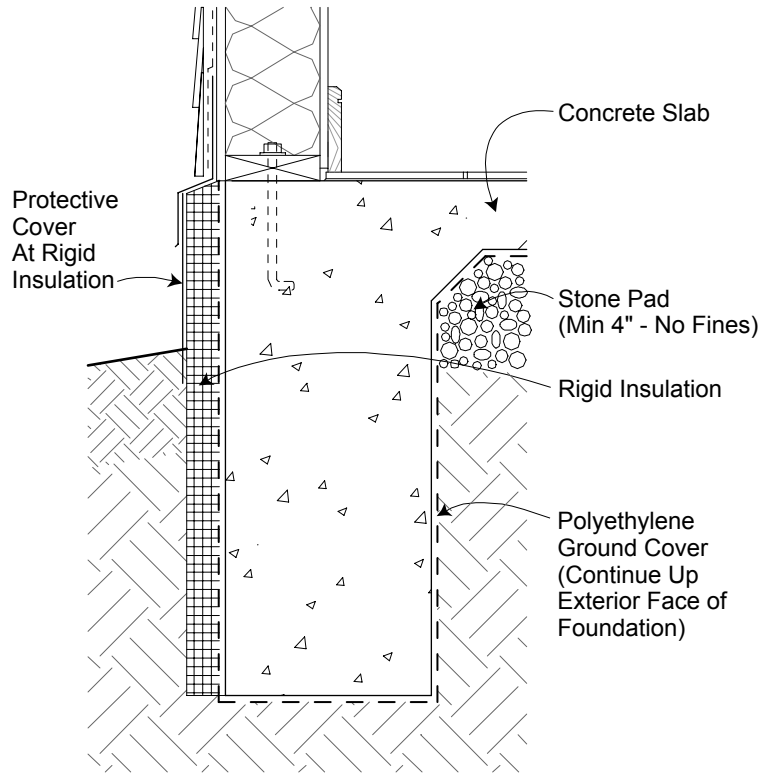

Figure 1 – Slab at grade –polyethylene under turned down edge and rigid insulation along perimeter of slab foundation.
7. For slabs with turned down edge, place the rigid insulation against the concrete form and place the polyethylene in footer trench and continue up to the top of the form. The polyethylene is placed interior to the rigid insulation so that the polyethylene will be in direct contact with the concrete. See Figure 1.